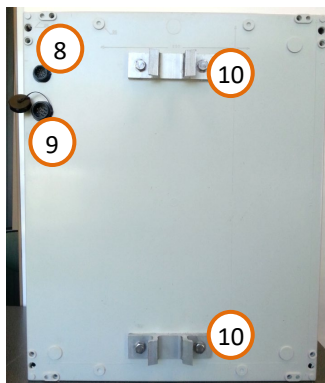
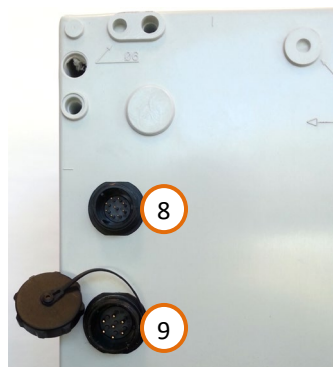

Figure 14: cabinet, backside
Figure 15 : cabinet, power connections
3. Plug the solar panel (see Title 11) or the power source for the battery (12 V) in the below connector backside (Figure 14 & Figure 15, p. 10, mark 9) :
4. Plug the radar in the upper connector backside (Figure 14 & Figure 15, p. 10, mark 8)